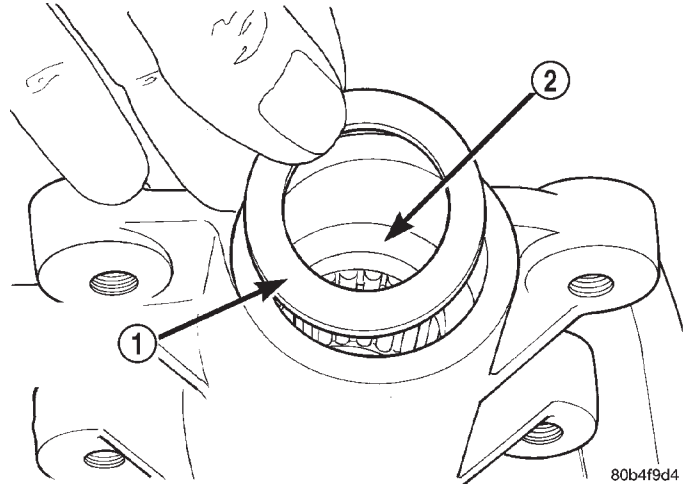

Fig. 11 Backup Washers
- (8) Remove oil seal metal backup washer then plastic backup washer from the housing (Fig. 11).